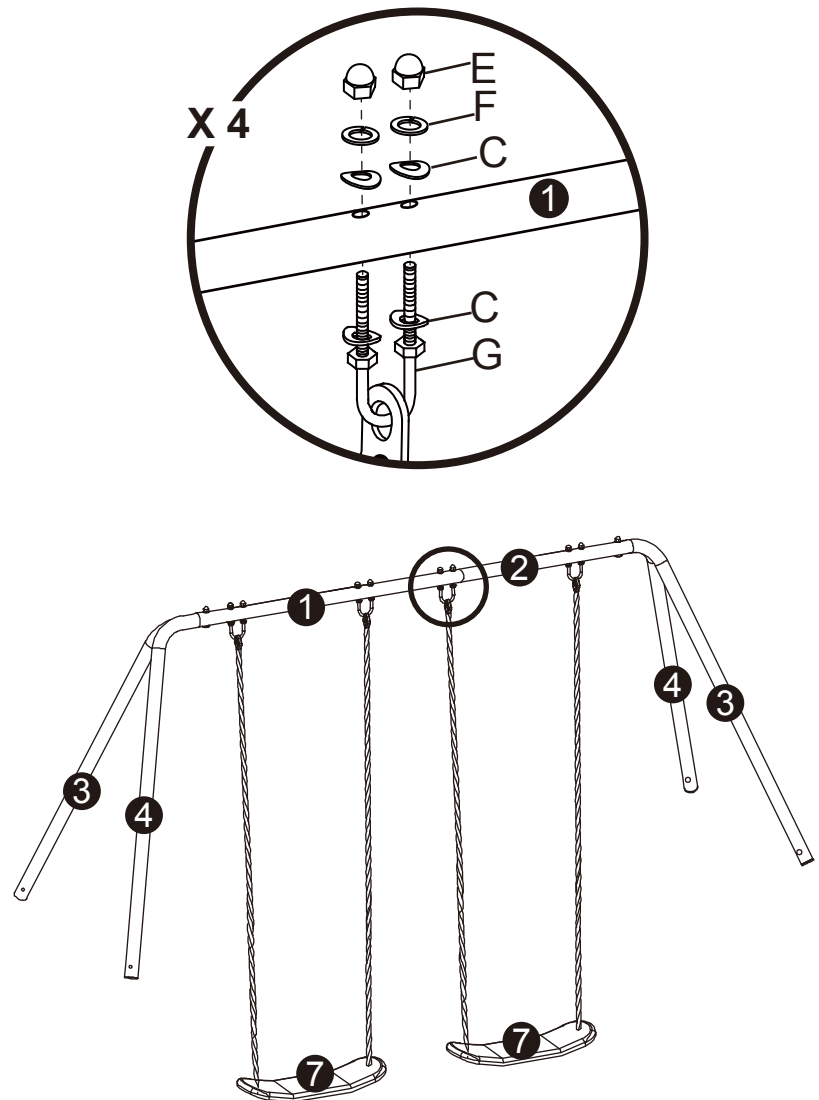

Figure 2
Attach swing Seats (7) to Beam (1) and (2) as shown in Figure 2.